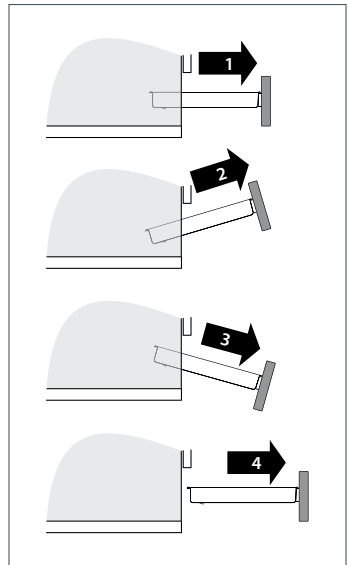

Fig. 6b Removing the drawer
- Remove the drawer (Fig. 6b).